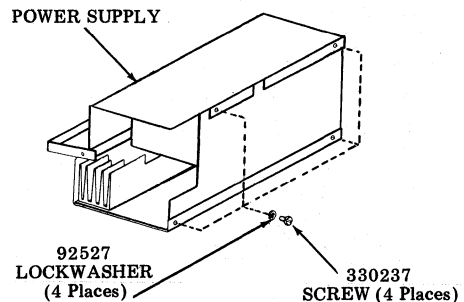

Fig. 4
- The early design power supply cover is secured with screws installed to bottom of power supply frame as shown in Fig. 4.
- Turn the unit on its side and remove the four screws which secure the power supply cover to the power supply frame (Fig. 4).